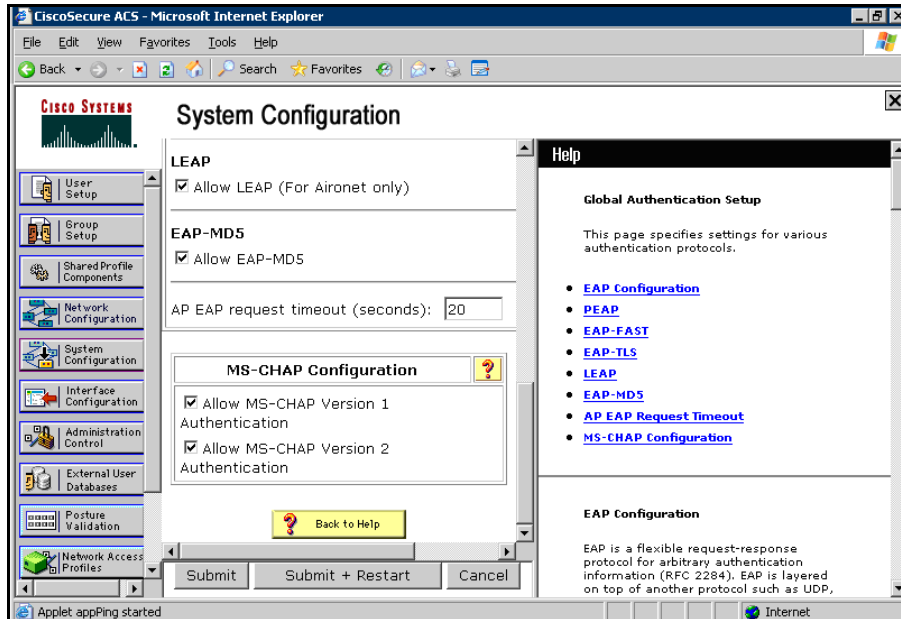

FIG. 71 EAP-LEAP sample Cisco System Security page
- Refer to FIG. 71 for an example of what a typical EAP-LEAP system configuration page would like.